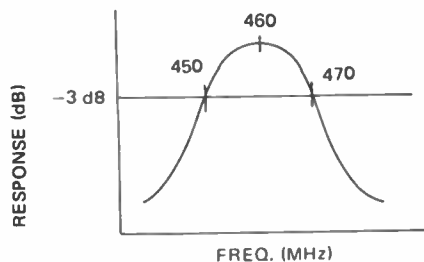

FIGURE 8.
- Step 2: Figure 8 shows a typical response curve of the tuner as originally aligned.
- Step 3: Adjust TC1, TC2 and TC3 of UHF Front-End section, so that the 460 MHz marker is in the center peak of a symmetrical curve as shown in Figure 8.